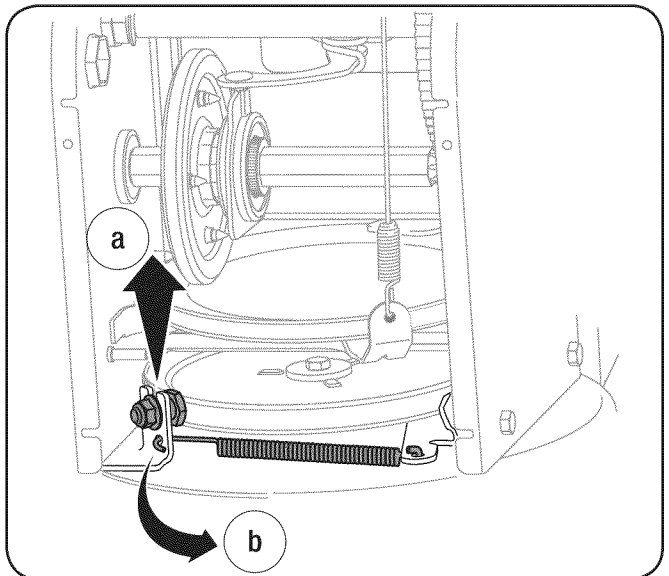
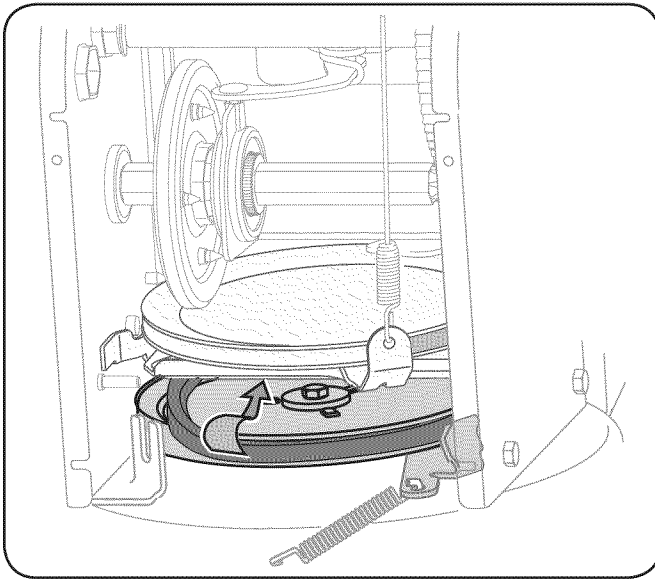

Figure 7-4
Figure 7-5
6. Remove the belt as follows. See Fig. 7-4 and Fig. 7-5.
3. Remove the belt from around the auger pulley, and slip the belt between the support bracket and the auger pulley. See Fig. 7-5.